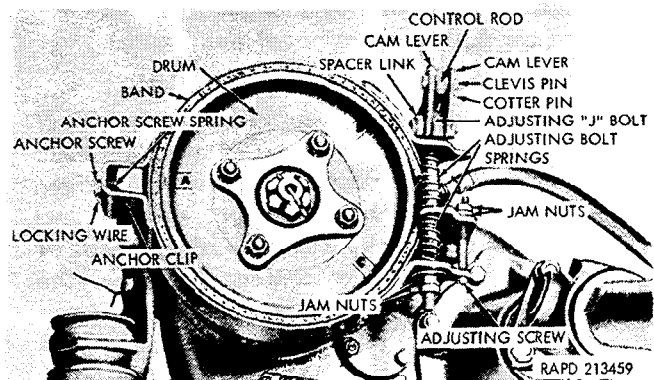

Figure 2-153. Handbrake band adjustment.
a. Adjust Handbrake Band (Fig. 2-153).
(1) With the brake control rod detached from the cam levers (*a* (2) above), loosen the nut at the yoke end of the brake control rod (G, fig. 2-70) and turn the rod in the yoke until the eye of the rod is in alignment with the clevis pin holes in the two cam levers (fig. 2-153).
(2) Attach the control rod to the cam levers with the clevis pin and cotter pin.
(3) Tighten the nut against the yoke.